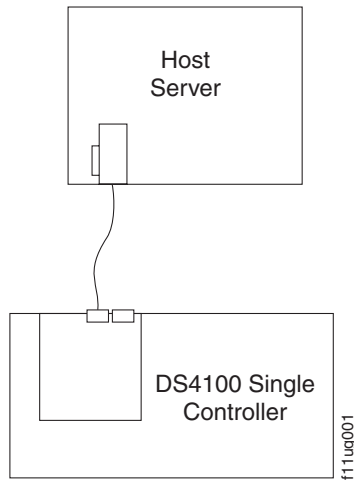

Figure 28. Example of a single server configuration with one adapter (single-controller storage subsystem)
- Single server configuration with one adapter, as shown in Figure 28 on page 43